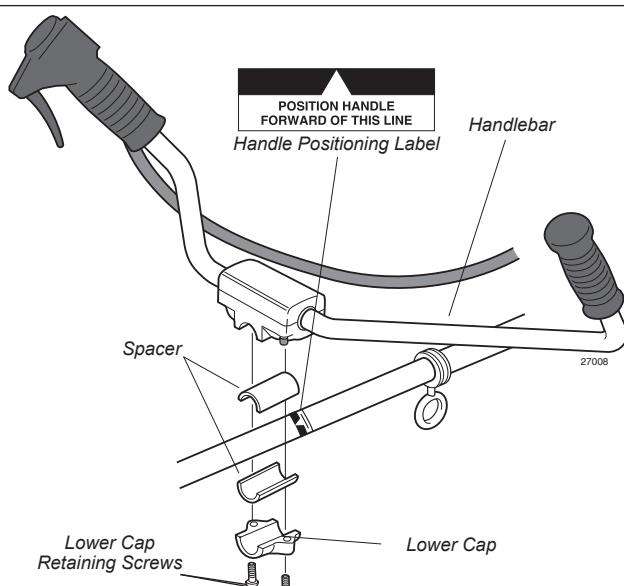

Figure 7
1. Use the 4 mm hex wrench to remove the lower cap retaining screws from the handlebar bracket. Remove the cap from the bracket, and note the position of the two spacers installed between the bracket halves. See Figure 7.
2. Position the handle on the outer tube forward of Handle Positioning Label as shown in Figure 7. Reassemble the lower cap to the handlebar bracket in the reverse order of disassembly.